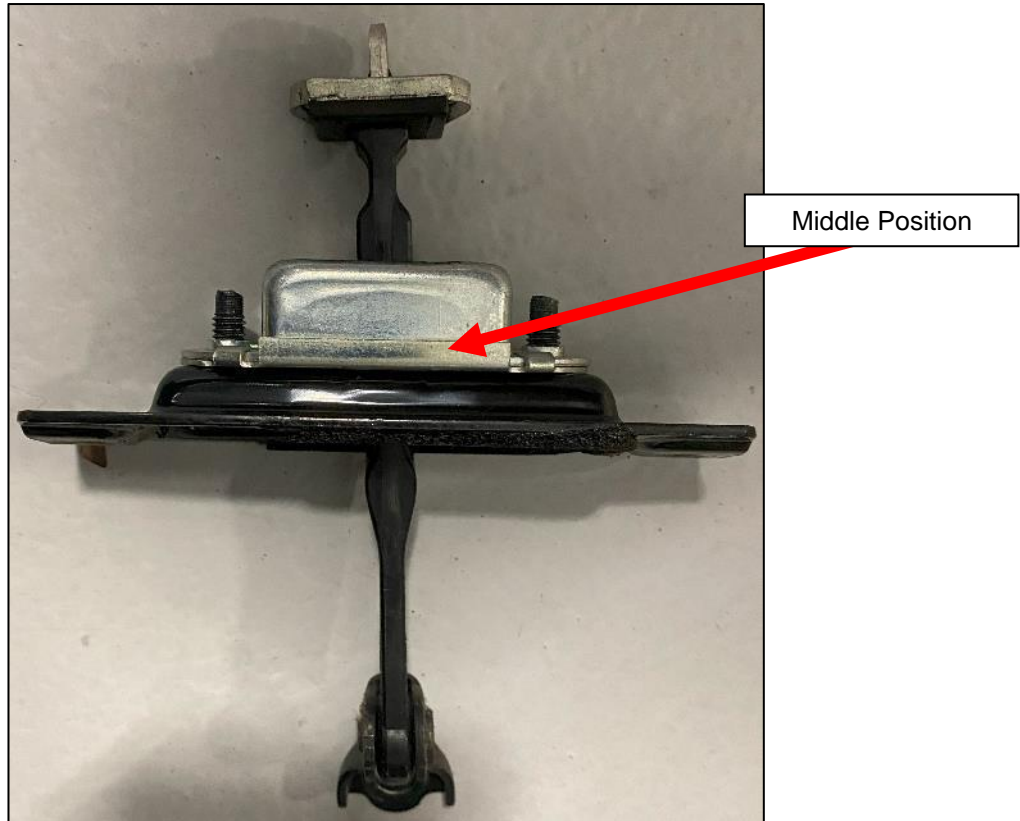

Figure 102
1. Move the Plate to the middle position of the Check Link Assembly. This is necessary to easily remove the OE Door Stoppers. *Figure 102.*